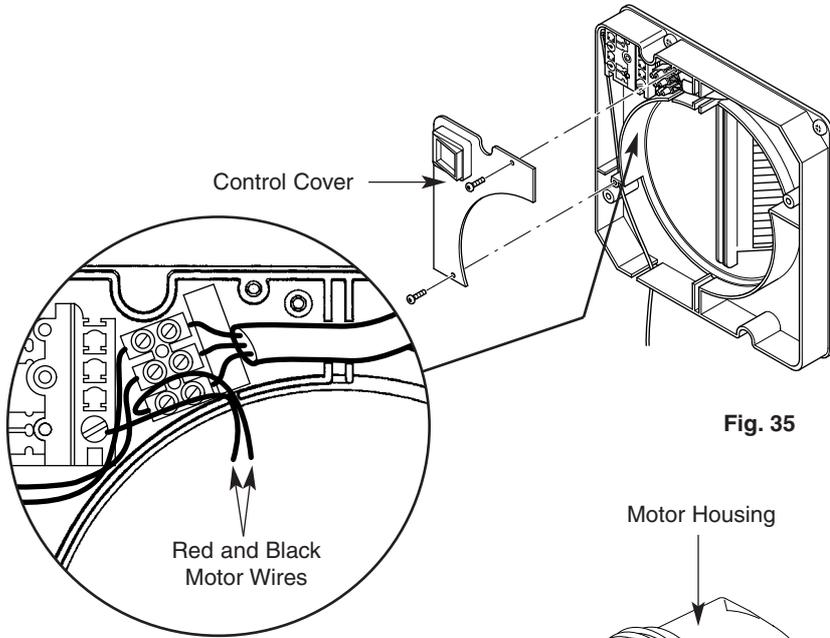

Fig. 35
1. Remove the control cover and disconnect the red and black motor wires (Fig. 35).